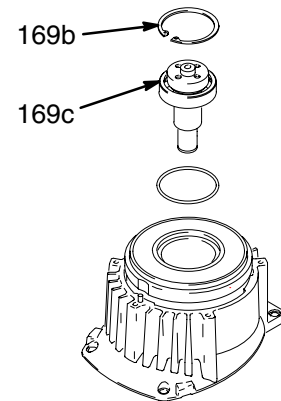
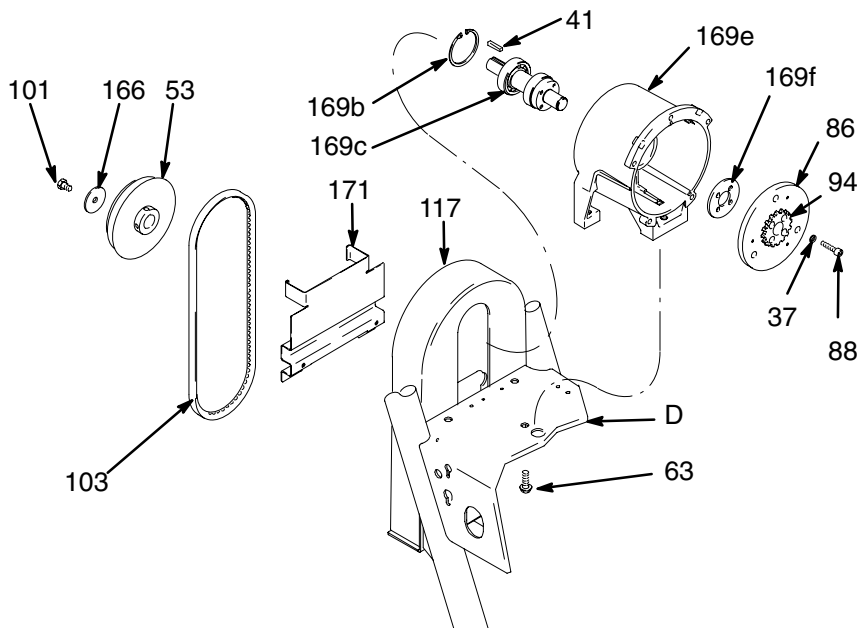

Fig. 7
Fig. 9
7. Fig. 7. Remove retaining ring (169b).
9. Fig. 9. Remove belt guide bracket (171), belt guard (117) and vee belt (103).
10. Hold pulley (53) and remove four screws (88) and washers (37) from hub (94). Remove armature (86) and spacer (169f).
11. **Engine Detail**, page 20. Remove screw (101) and washer (166) from engine drive shaft. Remove pulley (53) and motor shaft sleeve (170). Remove pulley and key (41).
12. Fig. 9. Remove three screws (63) from beneath mounting plate (D).
13. Lift off clutch housing (169).
1. Fig. 9. Install jack shaft assembly (169c). Install retaining ring (169b).
5. Fig. 9. Place spacer (169f) and armature (94, 86) on jack shaft assembly (169c).
6. Install three screws (63) through mounting plate (D) and into clutch housing (169).
7. Apply Loctite® to screw (101). Install screw, washer (166), key (41) and pulley (53) in end of jack shaft assembly (169c). End of jackshaft (169c) must be 0.090 in. below flush with end of bushing.
8. Hold pulley (53) and install four screws (88) and washers (37) in hub (94). Torque to 125 in-lb (14 N·m).
9. Install belt guard (117), belt guide bracket (171) and vee belt (103).
10. Fig. 7. Tap pinion shaft (169c) in with plastic mallet.